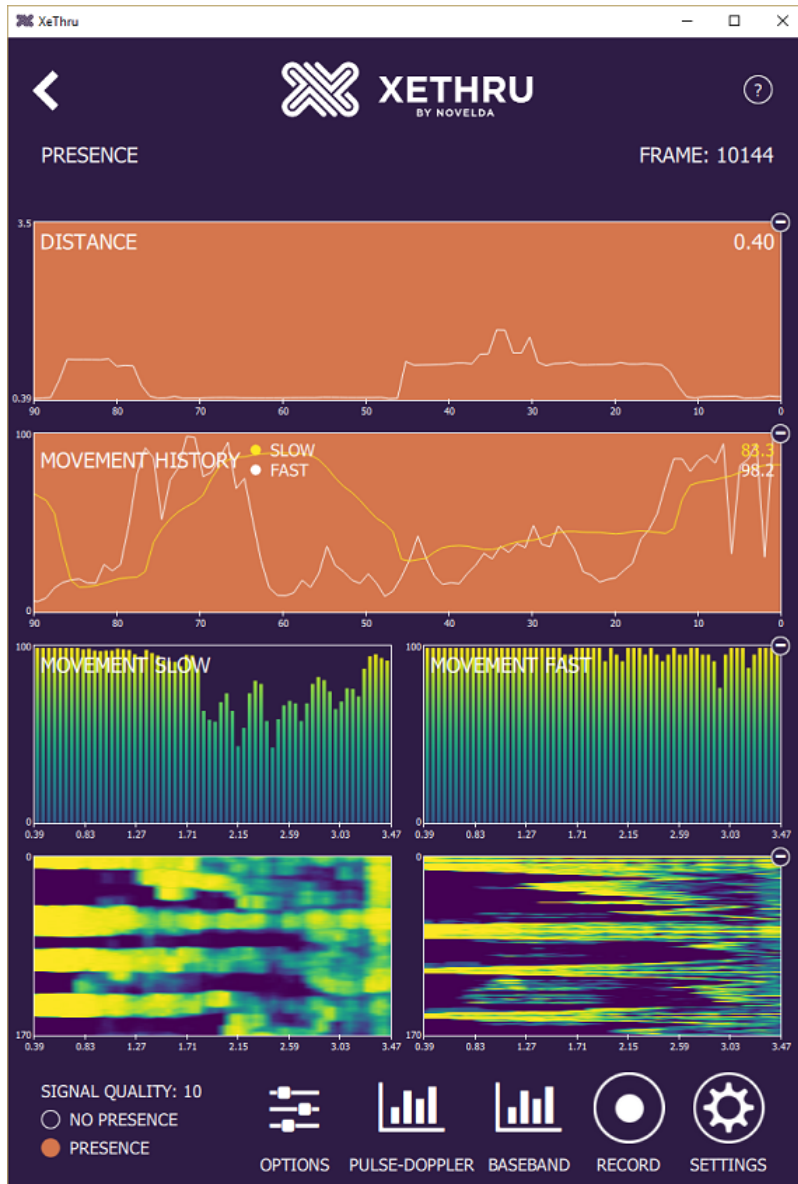

Fig. 4. Example of XeThru Explorer output.
- Spend some time getting used to what the module outputs when there is an object in the detection zone, see Fig. 4 for an example